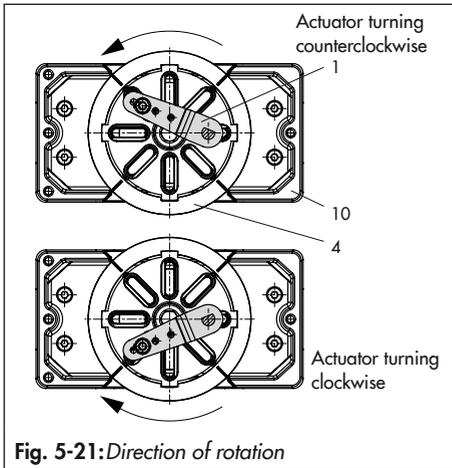

Fig. 5-21: Direction of rotation
4. Fasten coupling wheel (4) on the slotted actuator shaft or adapter (3) using screw (4.1) and disk spring (4.2).
5. Unscrew the standard follower pin (2) from the positioner's M lever (1). Attach the follower pin (Ø5 mm) included in the mounting kit to pin position 90°. Proceed as described in Chapter 5.3.
6. Mount connecting plate (6) for required G ¼ connecting thread or pressure gauge bracket (7) with pressure gauges on the positioner, making sure the two seals (6.1) are seated properly. Double-acting springless rotary actuators require the use of a reversing amplifier on the connection side of the positioner housing (see Chapter 5.4.7).
8. Place positioner on housing (10) and screw it tight. Taking the actuator's direction of rotation into account, adjust lever (1) so that it engages in the correct slot with its follower pin (Fig. 5-21).